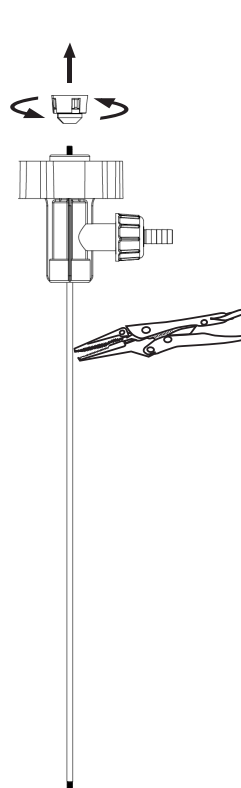

Figure 7
7. Remove pump coupling (P/N: 1004) from drive shaft by turning counterclockwise (see Figure 7). **NOTE:** Use grip-lock pliers to hold shaft while removing coupling.